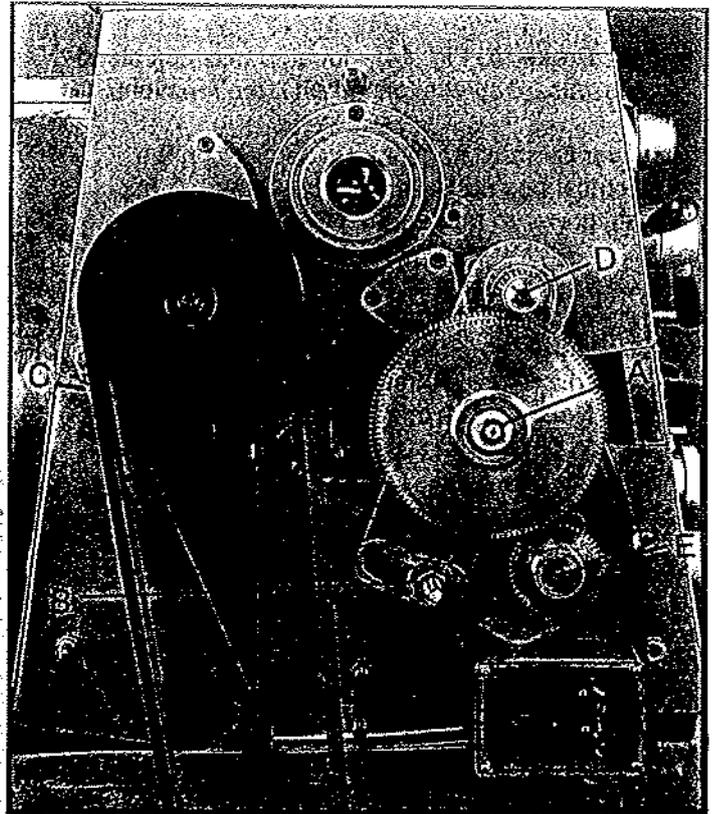

Fig. 17
3. Loosen nuts (A & B, Fig. 17).
4. Move quadrant (C, Fig. 17) out of the way and hold in place temporarily by tightening nut (B, Fig. 17).
5. Remove hex socket cap screws (D and/or E, Fig. 17), depending on which gear is to be changed).
7. Loosen nut (B, Fig. 17), move quadrant back so teeth mesh on gears, and tighten nuts (A & B, Fig. 17). **Caution: Make sure there is a backlash of .002-.003 between gears. Setting the gears too tight will cause excessive noise and wear.**